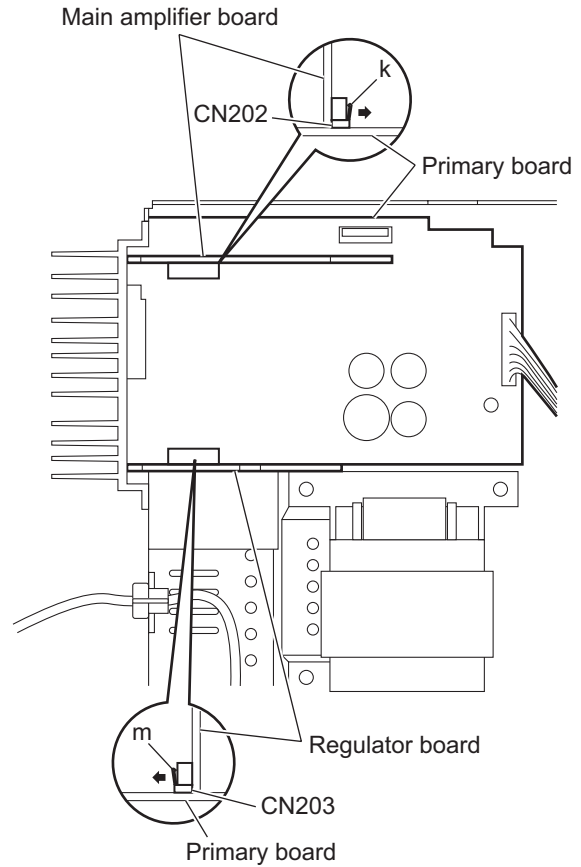
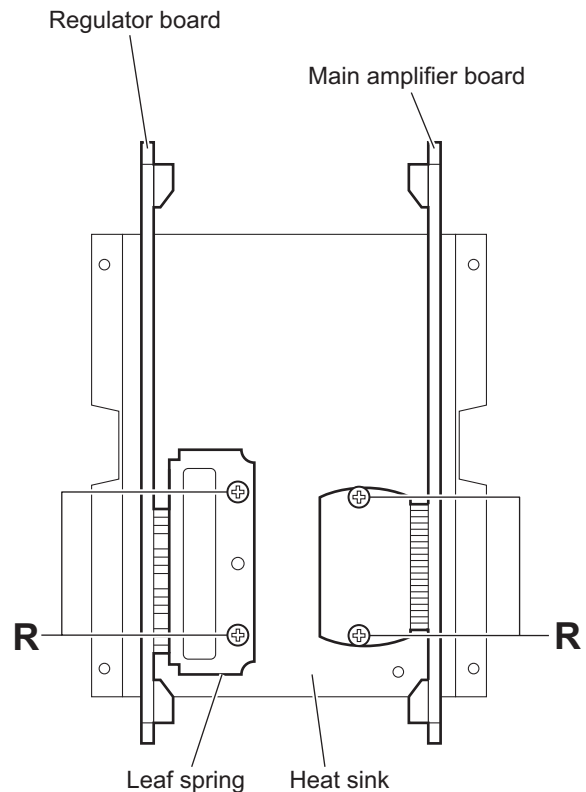

Fig.19
Fig.20
3.1.11 Removing the regulator board and main amplifier board (See Figs.19 and 20)
- (1) From the top side of the main body, disconnect the regulator and main amplifier boards in an upward direction while releasing the locks (**k**, **m**) of the connectors (CN202, CN203) on the primary board. (See Fig.19.)
- When releasing the locks (**k**, **m**), take care not to break them. (See Fig.19.)
- (2) Take out the regulator and main amplifier boards at the same time from the main body.
- (3) Remove the two screws **R** attaching the leaf spring to the heat sink and remove the regulator board from the heat sink. (See Fig.20.)
- (4) Remove the two screws **R** attaching the main amplifier board to the heat sink. (See Fig.20.)